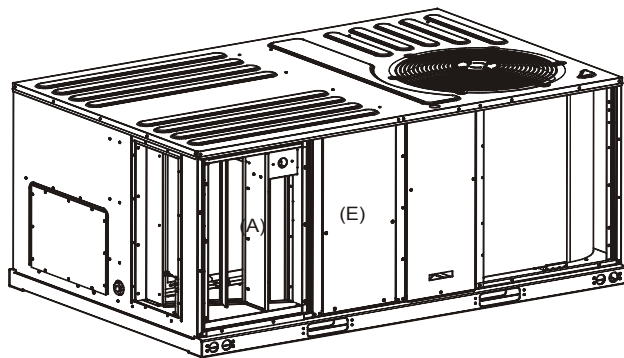

Figure 7
Secure Filter Access Panel (E) using 2 screws retained in **Step 2** and 2 self-tapping 10-16 x 1/2 screws provided with Economizer, as shown in **Figure 7**.